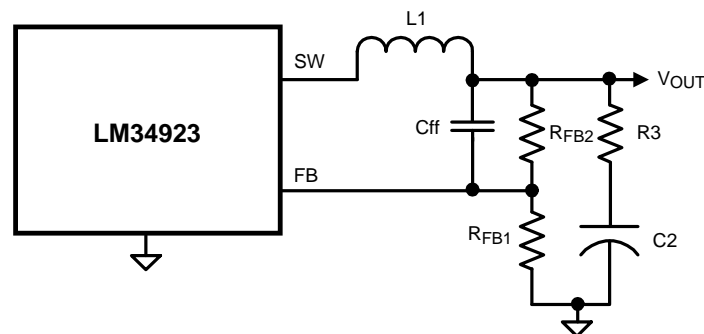

Figure 36. Reduced Ripple Configuration
a) Reduced ripple configuration: In Figure 36, Cff is added across R_{FB2} to AC-couple the ripple at V_{OUT} directly to the FB pin. This allows the ripple at V_{OUT} to be reduced to a minimum of 25 mVp-p by reducing R_3 , since the ripple at V_{OUT} is not attenuated by the feedback resistors. The minimum value for Cff is determined from: